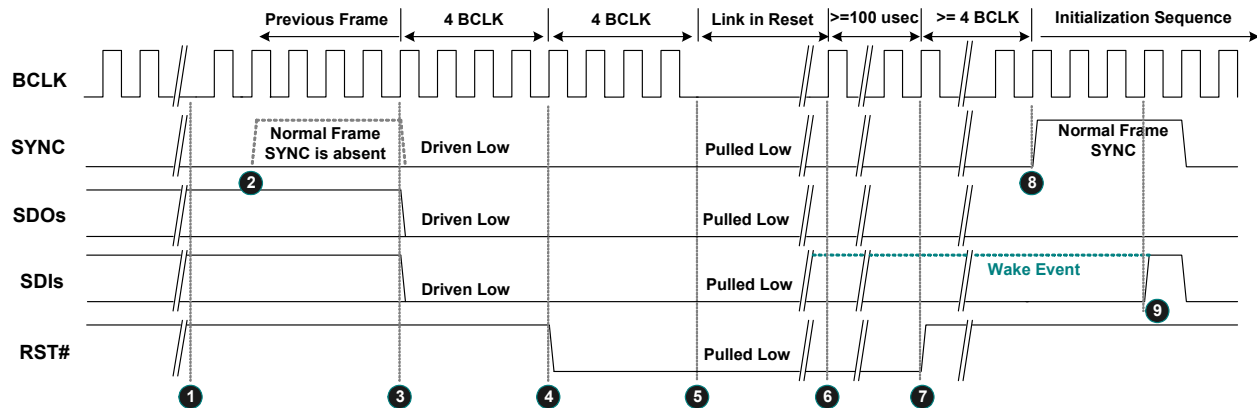

Figure 13. Link Reset Timing
3. Software initiates power management sequences. Figure 13, page 20, shows the 'Link Reset' timing including the 'Enter' sequence (①~⑤) and 'Exit' sequence (⑥~⑨)